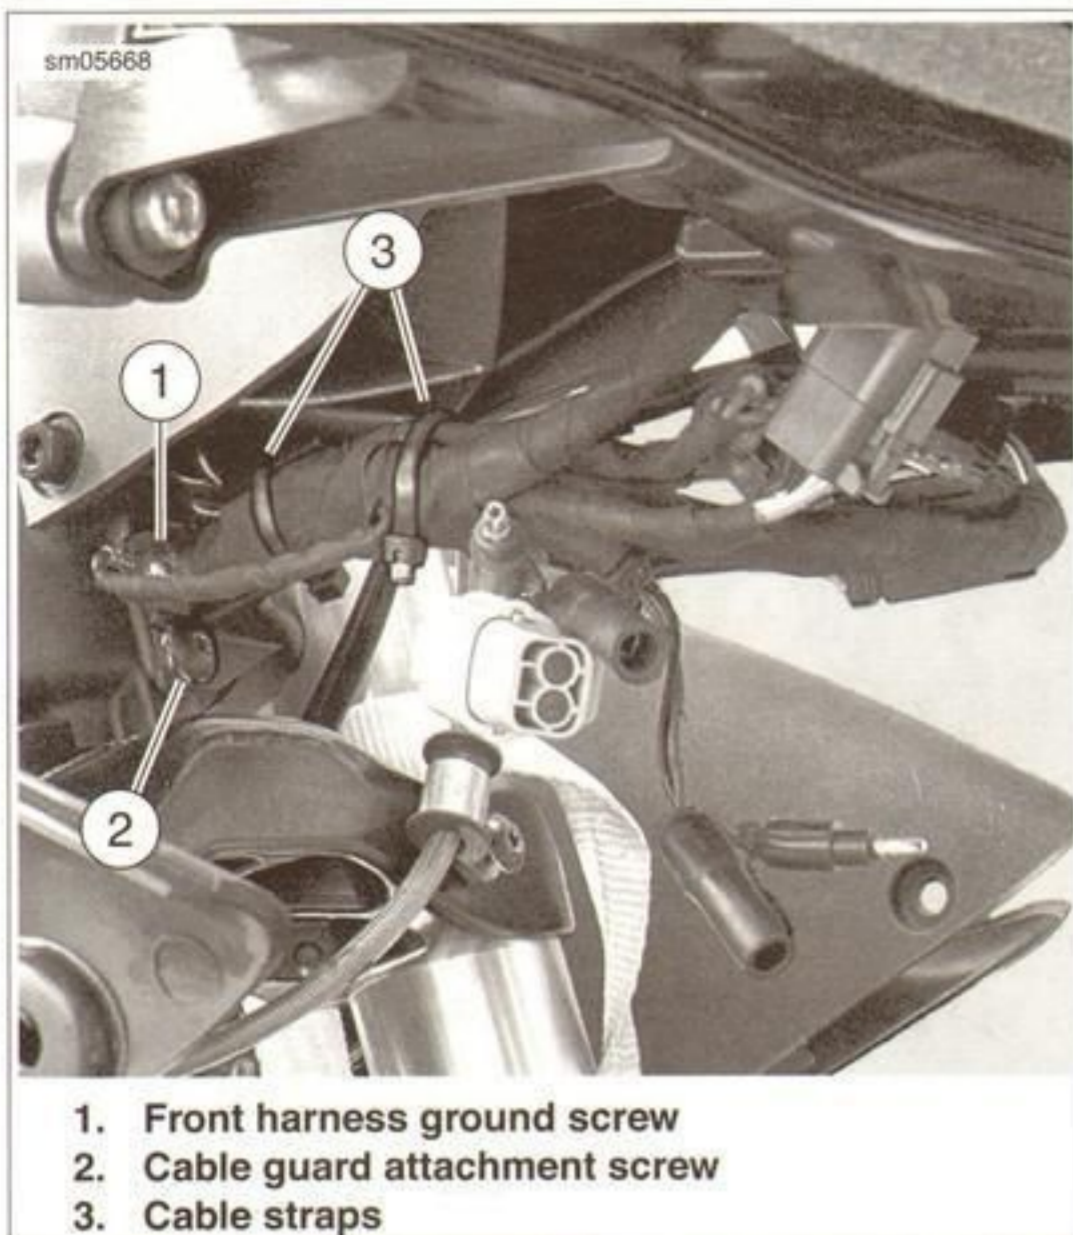
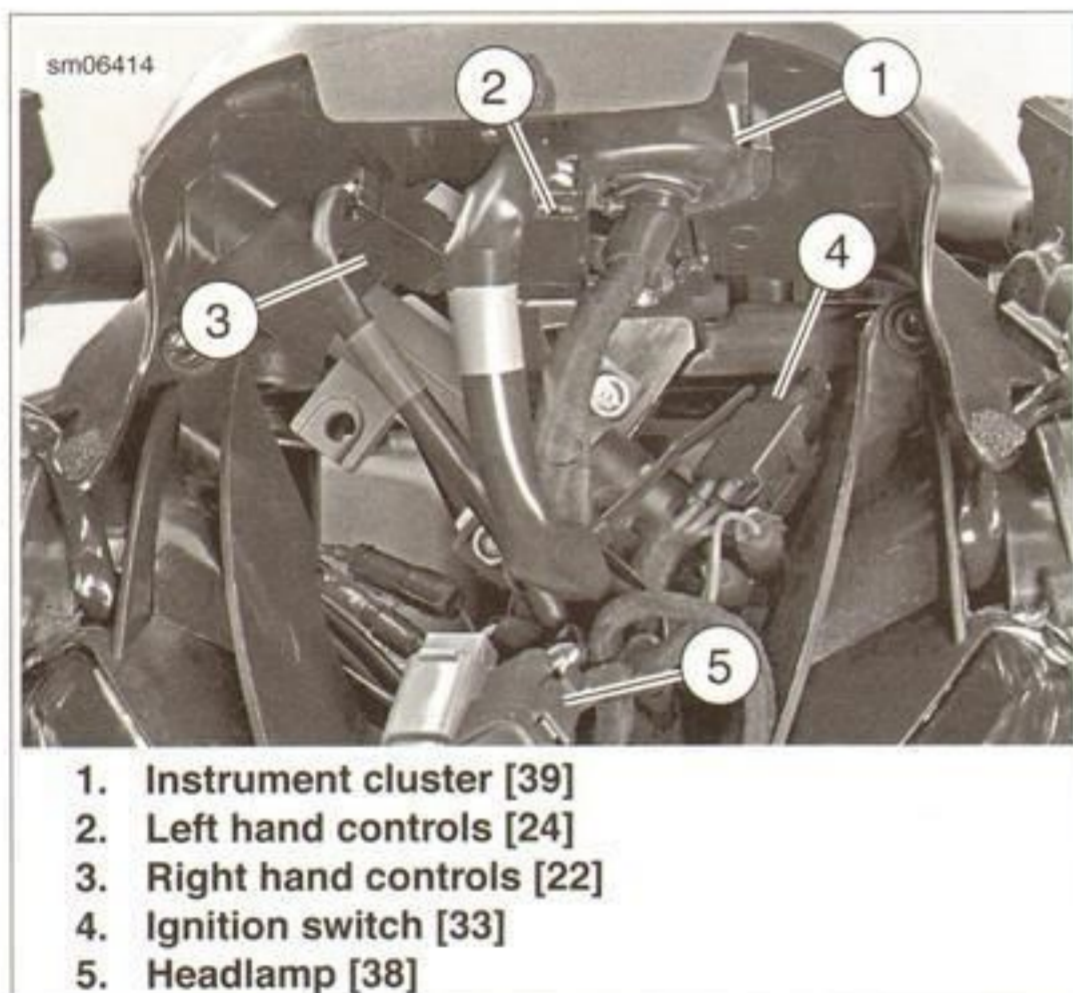

Figure 7-117. Main Harness Front Connectors: 1125R
Figure 7-118. Main Harness Front Connectors: 1125CR
3. See Figure 7-117 or Figure 7-118. Remove cable straps. Loosen screw securing front harness guard and move guard aside.